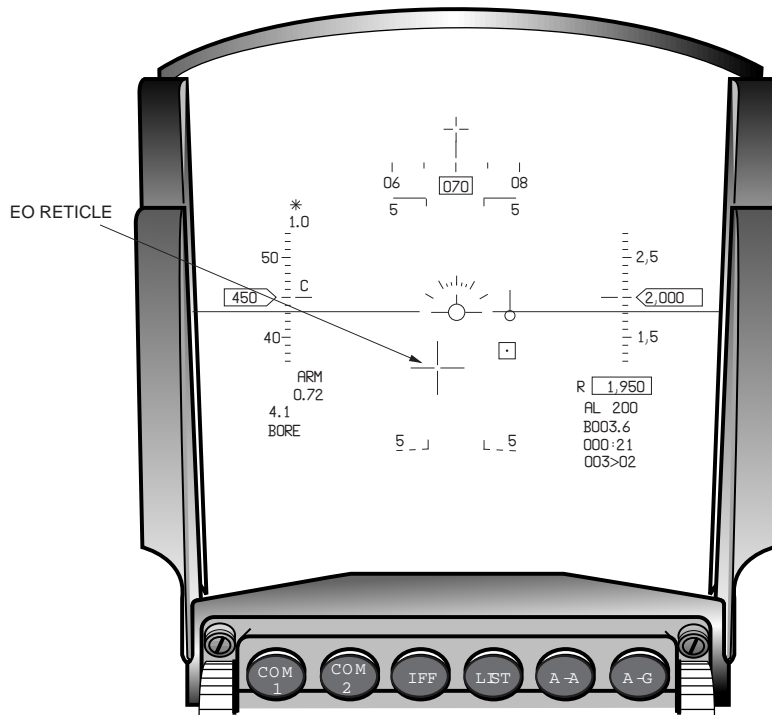

Figure 6-31 E-O BORE HUD
**E-O Bore Submode.** The BORE submode is similar to the E-O PRE submode except the missile seeker is slaved to the missile boresight. An AGM-65 missile reticle represents the missile LOS on the HUD (Figure 6-31). The pilot maneuvers the aircraft to place the reticle on the target for coarse alignment. He then slews